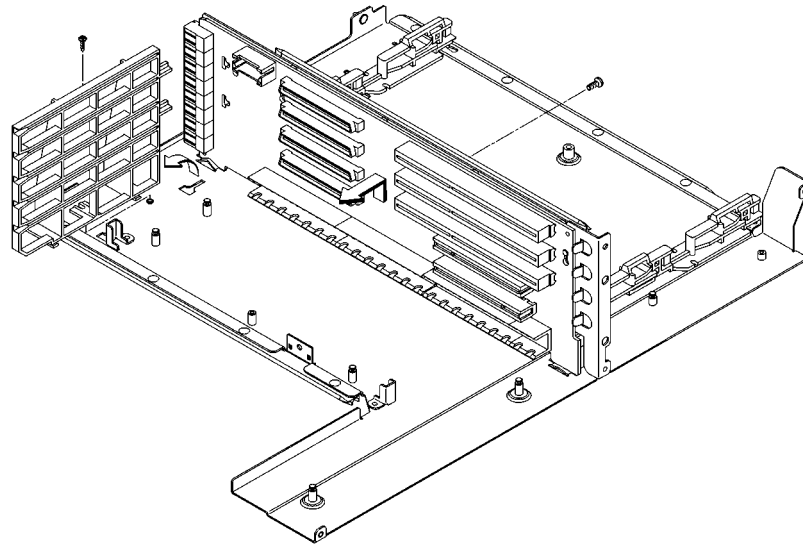

Figure 59 **Removing the Backplane**
- 1** Remove the card guide retaining screw, as shown in Figure 59.
- 2 Lift the card guide up and out, as shown in Figure 59.
- 3 Remove the retaining screw from the backplane, as shown in Figure 59.
- 4 Lift the Backplane up and out, as indicated in Figure 59.